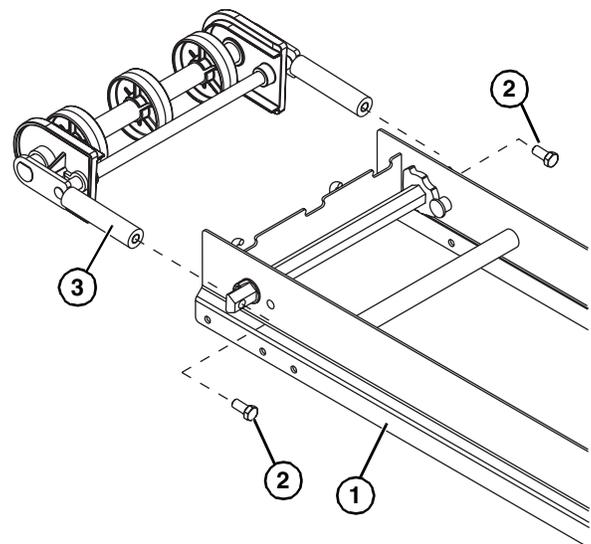

**Figure 20**
- Slide the tip up sleeves (**Figure 20, item 1**) and stop keys (**Figure 20, item 2**) outward on hex shaft assembly (**Figure 20, item 3**) until the sleeves seat in the holes of the frame and stop keys are seated against frame stops (**Figure 20, item 4**).